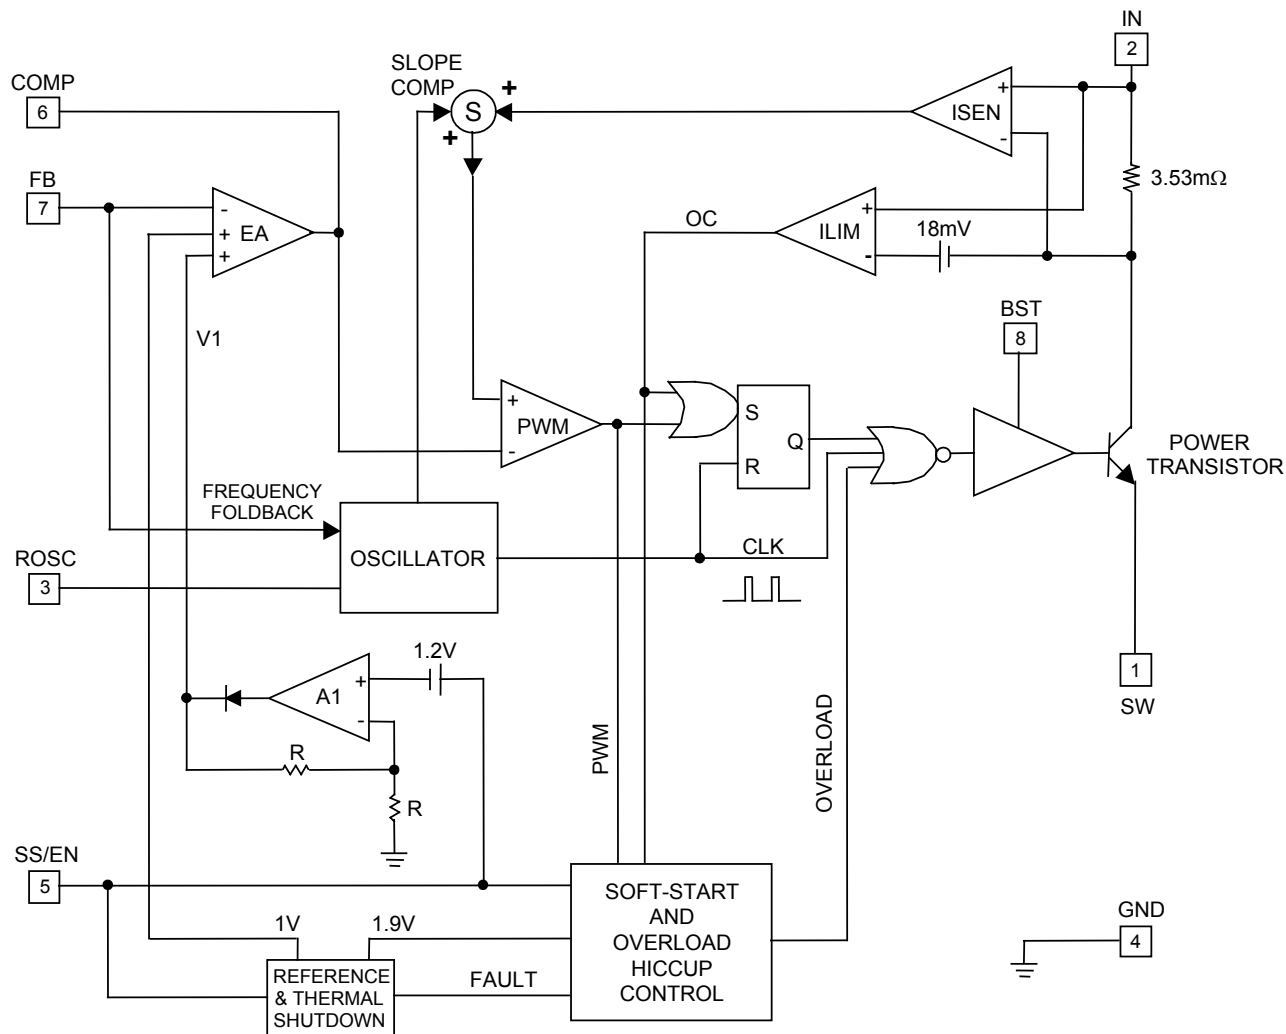

Figure 2 — SC4525C Block Diagram
As shown in Figure 2, the switch collector current is sensed with an integrated 3.53mΩ sense resistor. The sensed current is summed with a slope-compensating ramp before it is compared with the transconductance error amplifier (EA) output. The PWM comparator trip point determines the switch turn-on pulse width. The current-limit comparator ILIM turns off the power switch when the sensed signal exceeds the 18mV current-limit threshold.
The error amplifier EA in Figure 2 has two non-inverting inputs. The non-inverting input with the lower voltage predominates. One of the non-inverting inputs is biased to a precision 1V reference and the other non-inverting input is tied to the output of the amplifier A_1 . Amplifier A_1 produces an output $V_1 = 2(V_{SS/EN} - 1.2V)$. V_1 is zero and COMP is forced low when $V_{SS/EN}$ is below 1.2V. During start up, the effective non-inverting input of EA stays at zero until the soft-start capacitor is charged above 1.2V. Once $V_{SS/EN}$ exceeds 1.2V, COMP is released. The regulator starts to switch when V_{COMP} rises above 0.4V. If the soft-start interval is made sufficiently long, then the FB voltage (hence the output voltage) will track V_1 during start up. $V_{SS/EN}$ must be at least 1.83V for the output to achieve regulation. Proper soft-start prevents output overshoot. Current drawn from the input supply is also well controlled.
becomes armed. As the load draws more current from the regulator, the current-limit comparator ILIM (Figure 2) will eventually limit the switch current on a cycle-by-cycle basis. The over-current signal OC goes high, setting the latch B₃. The soft-start capacitor is discharged with (I_D - I_C) (Figure 3). If the inductor current falls below the current limit and the PWM comparator instead turns off the switch, then latch B₃ will be reset and I_C will recharge the soft-start capacitor. If over-current condition persists or OC becomes asserted more often than PWM over a period of time, then the soft-start capacitor will be discharged below 1.9V. At this juncture, comparator B₄ sets the overload latch B₂. The soft-start capacitor will be continuously discharged with (I_D - I_C). The COMP pin is immediately pulled to ground. The switching regulator is shut off until the soft-start capacitor is discharged below 1.0V. At this moment, the overload latch is reset. The soft-start capacitor is recharged and the converter again undergoes soft-start. The regulator will go through soft-start, overload shutdown and restart until it is no longer overloaded.
The PWM latch in Figure 2 is reset every cycle by the clock. The clock also turns off the power transistor to refresh the bootstrap capacitor. This minimum off time limits the attainable duty cycle of the regulator at a given switching frequency. The measured minimum off time is 100ns typically. If the required duty cycle is higher than the attainable maximum, then the output voltage will not be able to reach its set value in continuous-conduction mode.